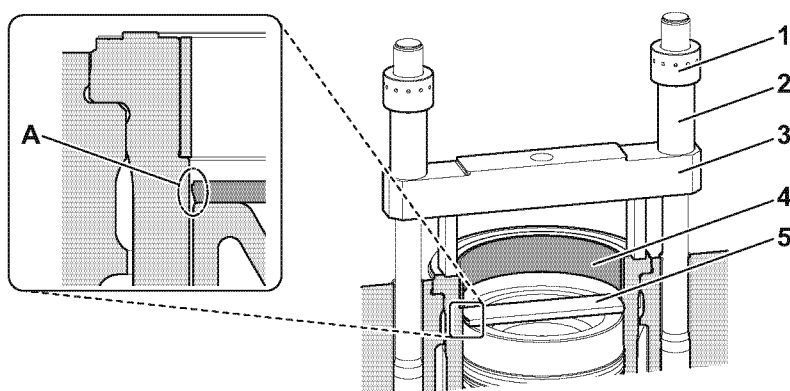

Fig.1 Removing the protection ring
- 3 - Install the top part of the liner drawing-out tool 3 and the spacer 2. Lock it with the cylinder head clamping nut 1. Refer to Fig. 1.